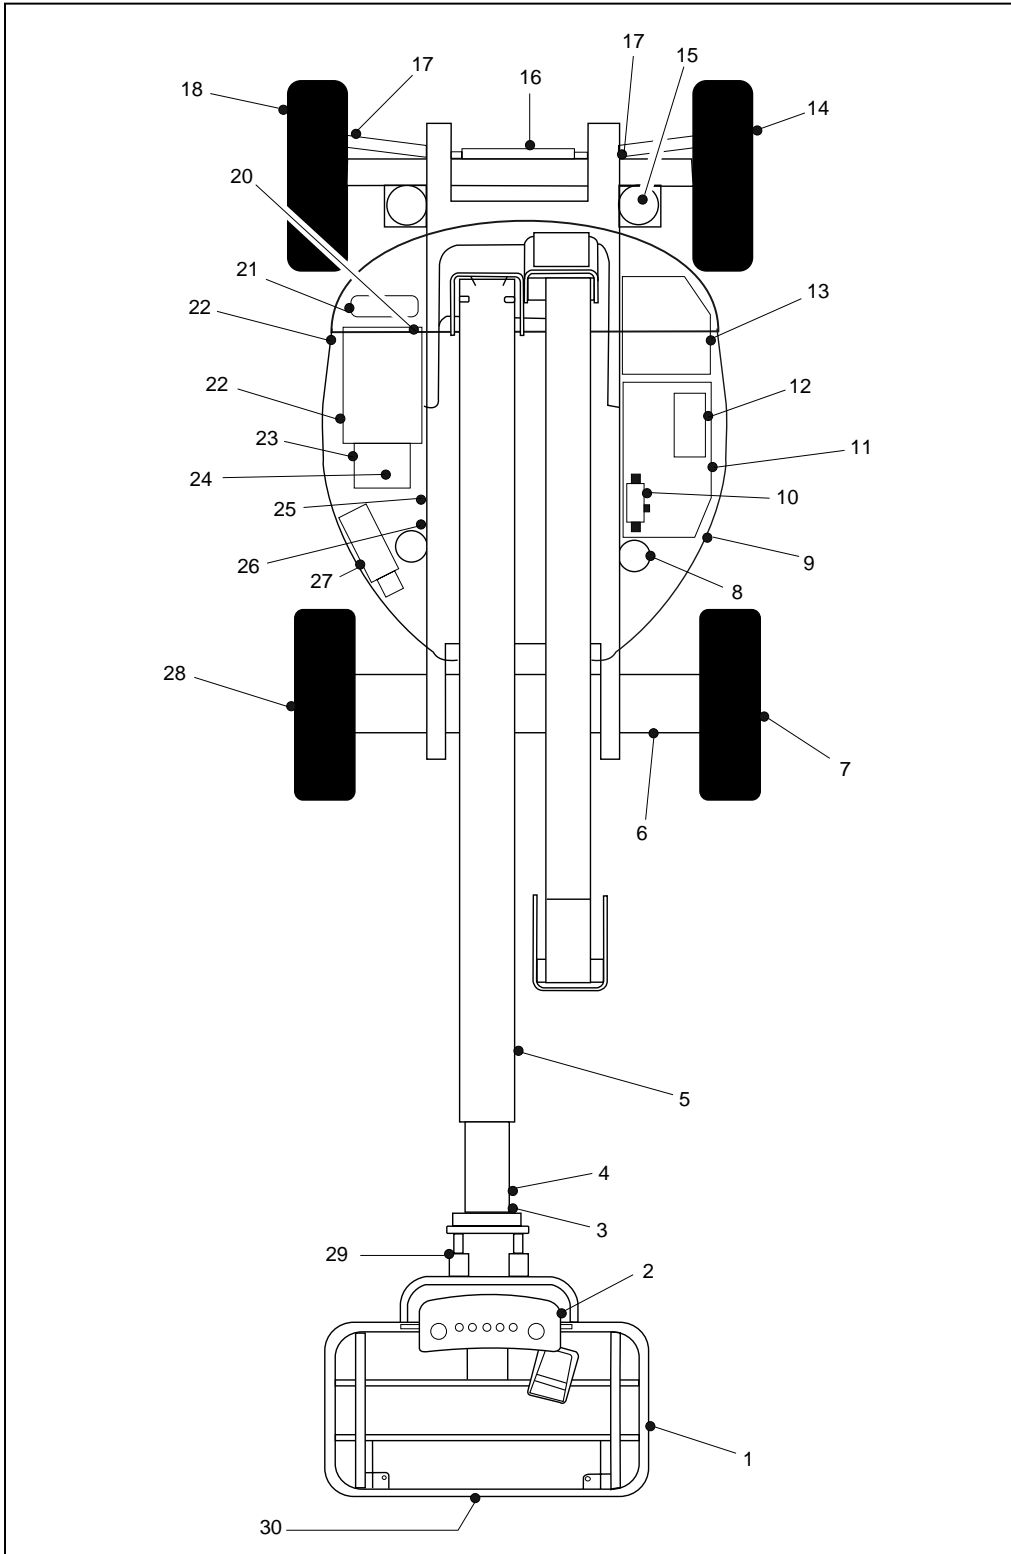

Figure 2-3. Daily walk-around Inspection. (Sheet 1 of 3)
8. Assure that all items requiring lubrication are serviced. Refer to Lubrication Chart, Figure 2-3, for specific requirements.